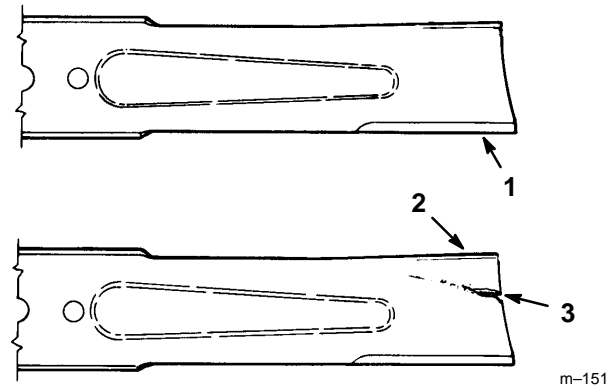

Figure 33
2. Inspect the cutting edges (Fig. 33). If the edges are not sharp or have nicks, remove the blade(s) and sharpen them; refer to Sharpening the Blade(s), page 35.
3. Inspect the blade(s), especially the curved area (Fig. 33). If you notice any damage, wear, or a slot forming in this area (Fig. 33), immediately install a new blade.